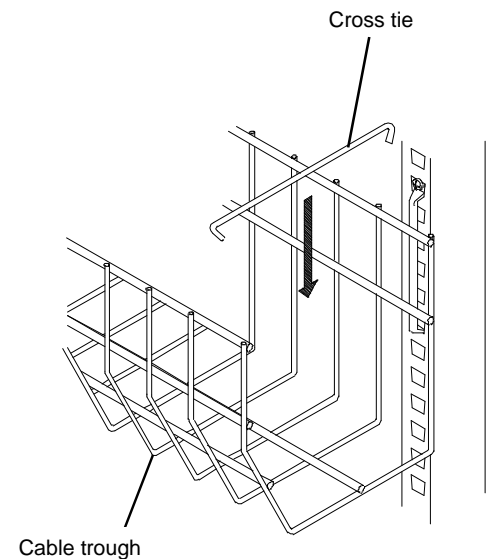

Figure 2
2. Install one **Cross Tie** at each end of the Trough and equally spaced in the center. Longer sections may have multiple Cross Ties in the middle. See **Figure 2**.